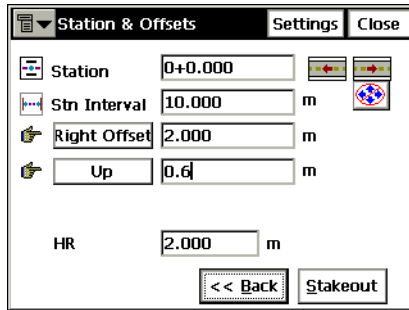

Figure 7-19. Station & Offsets
3. In the *Station & Offsets* screen, set the station along the line being staked, the station staking interval, the right or left offset of the stakeout point with respect to the line, the Up or Down Height offset, the height and the type of the antenna height (GPS mode), or the height of the rod (target) (TS mode). If the number of subdivisions has been selected, the station interval is automatically computed and cannot be changed (Figure 7-19).